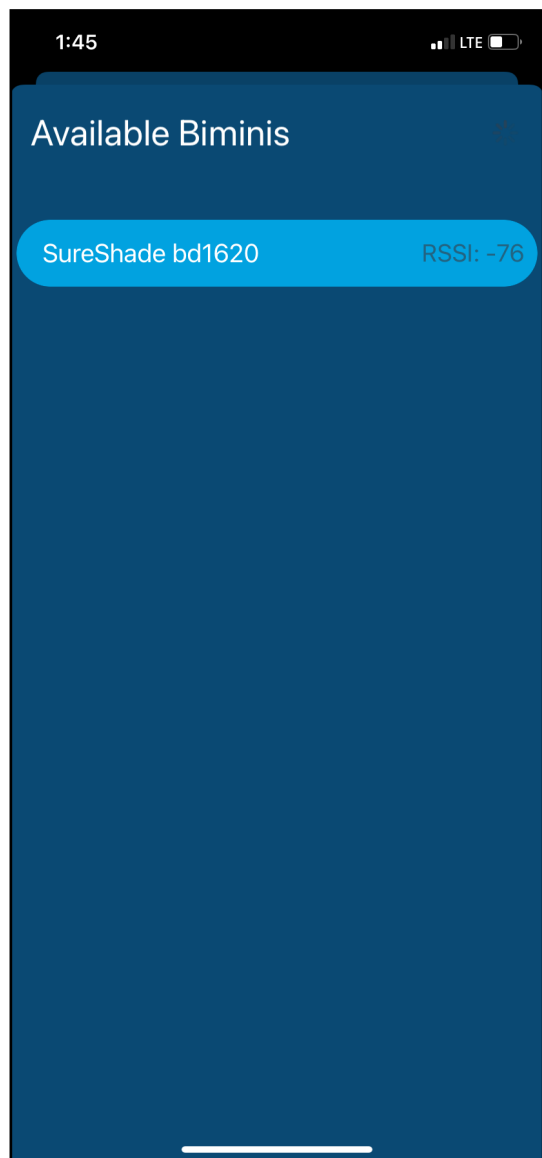

Fig.53
G. Select the desired bimini from the Available Biminis list (Fig.53).